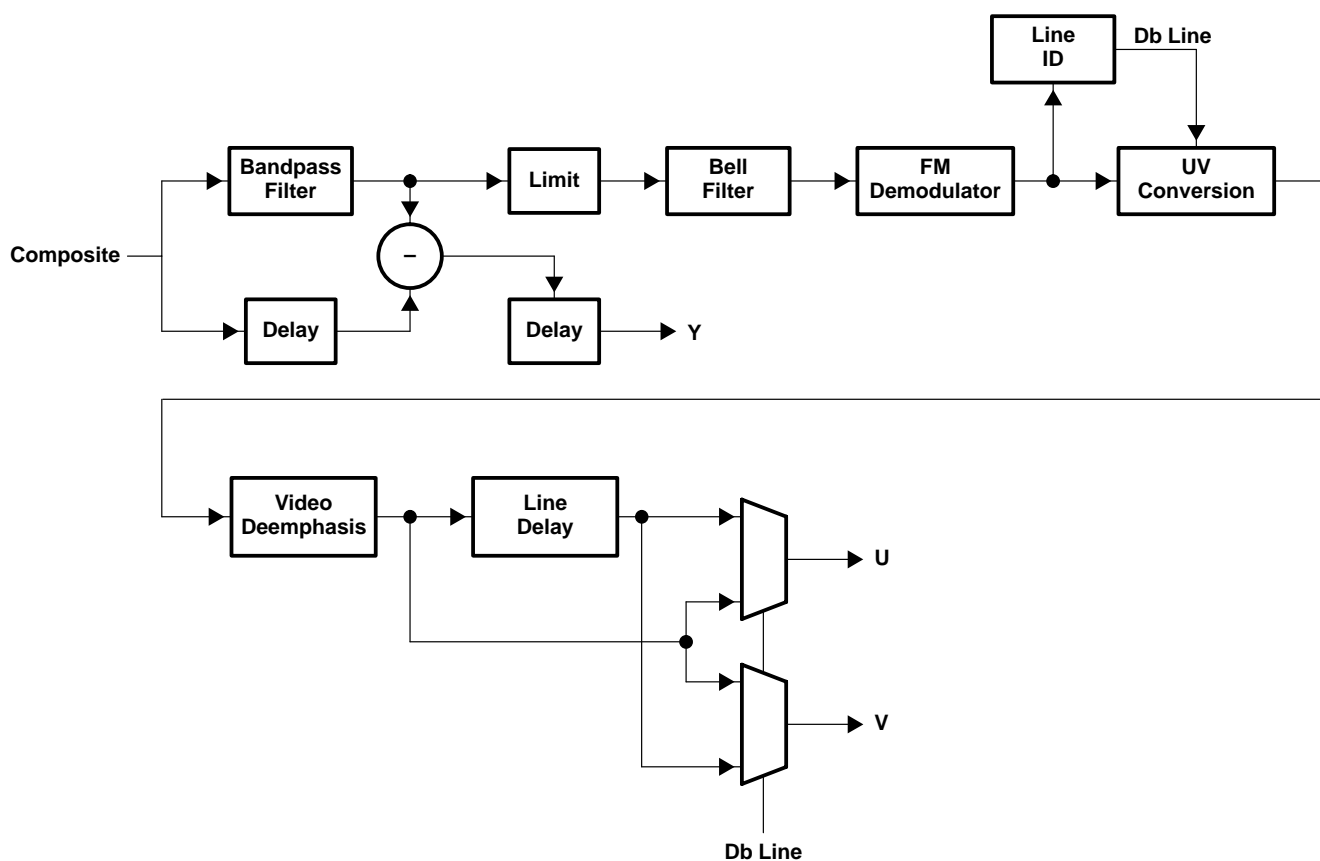

Figure 2–19. SECAM Data Path
The SECAM standard is similar to PAL except for the modulation of color which is frequency modulation (FM) instead of quadrature amplitude modulation (QAM). The color difference signals Db and Dr are transmitted on an alternating line basis using two different color FM carrier frequencies: 4.25 MHz for Db (blue) and 4.40625 MHz for Dr (red). A line reference signal which is transmitted during the back porch interval identifies the appropriate color signal. Figure 2–19 is a block diagram of the processing data path for SECAM which decodes into YUV. Luma Y is generated by filtering the chroma using a bandpass filter and then subtracting the chroma from the composite input. The delay blocks compensate for delays in the filter and the chroma data path. The filtered chroma is then limited and filtered by a bell filter. The bell filter emphasizes (amplifies) the FM carrier which was deemphasized (attenuated) by the encoder prior to transmission. The bell filter output is then fed to the FM demodulator which outputs a scaled version of UV. These scaled outputs are then converted to UV by the UV conversion block. The line ID block monitors the FM demodulator outputs during the back porch interval so that the Db or Dr line can be identified. The video deemphasis block attenuates the higher frequency components of the inputs which were emphasized (amplified) by the encoder in order to improve SNR. Both the bell and the video deemphasis filters have a nonlinear phase characteristic as required by the SECAM standard ITU-R BT.470. A line delay and two multiplexers demultiplex the UV into separate cosited U and V outputs. A line delay and two multiplexers demultiplex the UV into separate cosited U and V outputs.
The frequency responses for the SECAM filters and FM demodulator characteristic are shown in Figure 2–20 for the ITU-R BT.601 and square pixel sampling rates.